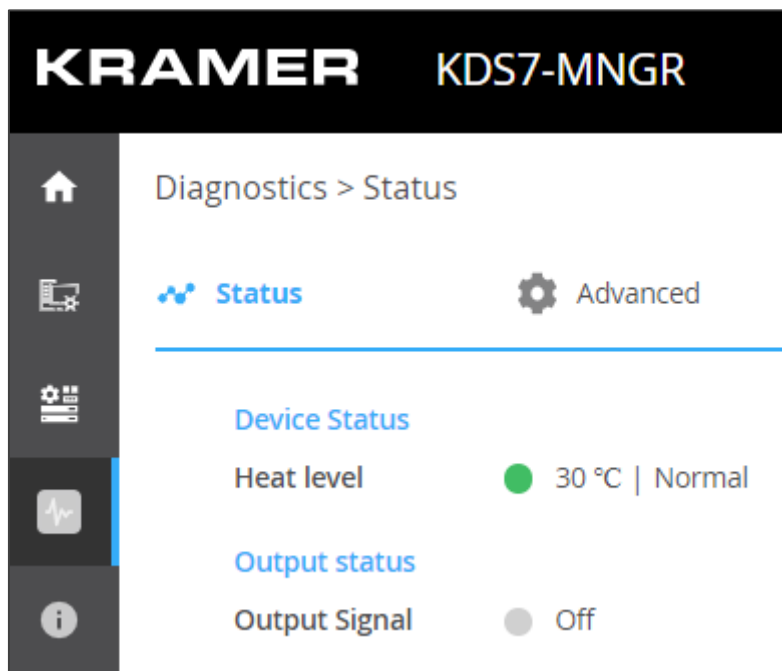

Figure 67: Diagnostics Page – Status Tab
1. In the Navigation pane, click **Diagnostics**. The Status tab appears (see Figure 67).